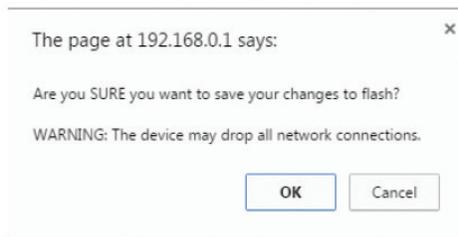

Figure 21: QuickConnect WLAN Profile confirmation
6. Confirm the changes by selecting “OK” if prompted as shown below in Figure 21